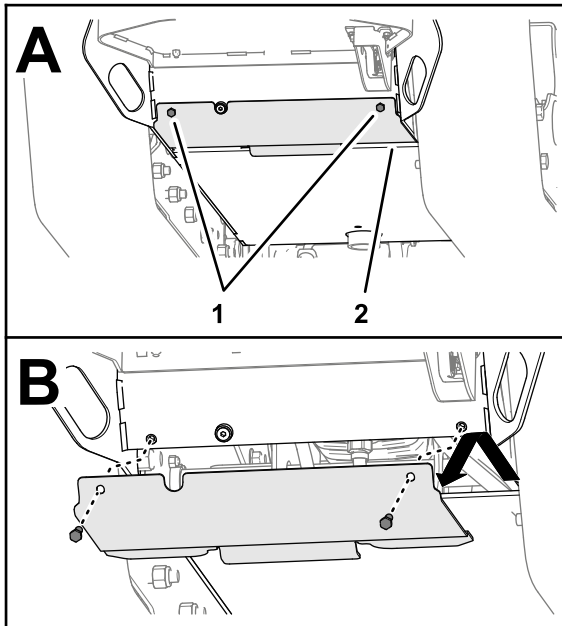

Figure 3
1. Remove the 2 bolts (3/8 x 1 inch) that secure the bottom cover plate to the frame plate (Figure 3).
2. Remove the bottom cover plate from the machine (Figure 3).